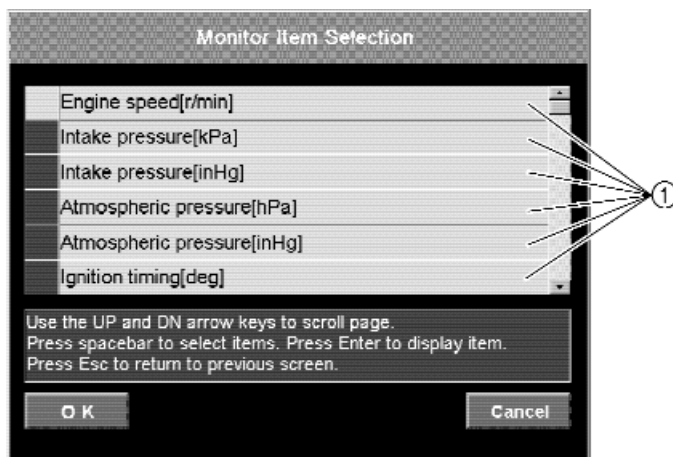

Fig. 38
① Click to go to item selection display.
3. Select an item by either clicking it or pressing the up or down arrow keys on your keyboard, and then press the space bar. (Fig. 38)
① Selected items
4. Click the **OK** button or press the Enter key on your keyboard. The **Engine monitor** window appears. To cancel the monitor, click the **Cancel** button or press the Esc key on your keyboard (Fig. 38).